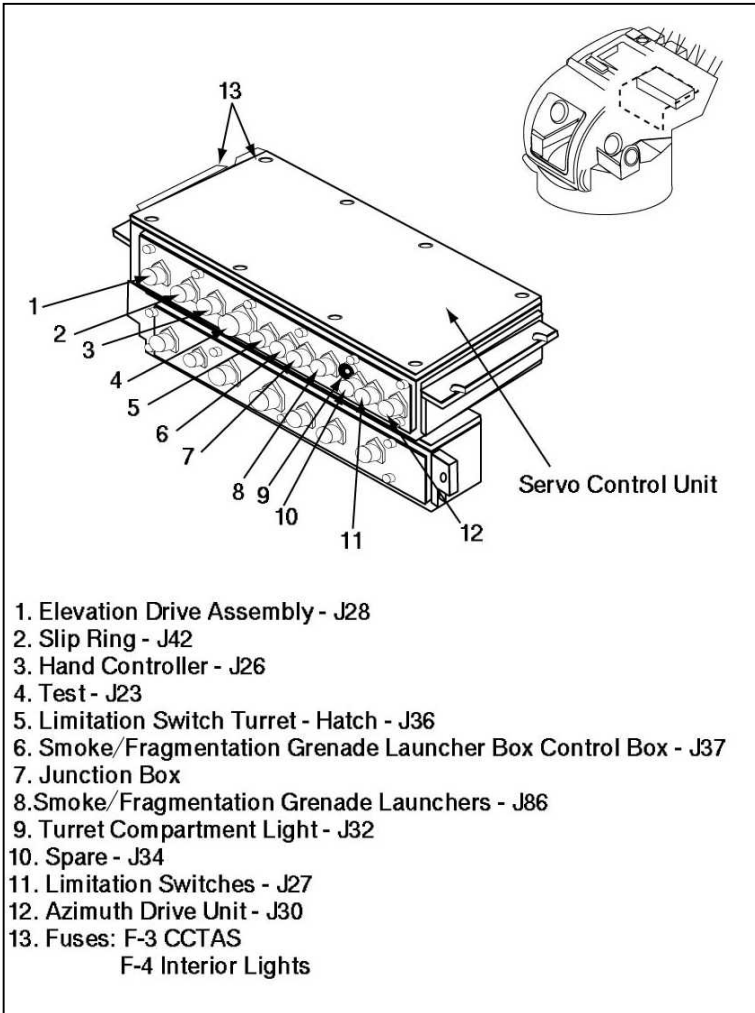

Figure 4-2-3: Servo Amplifier
16. **Servo Amplifier.** The servo amplifier is bolted to two rails located behind the gunner. The unit contains two servo amplifiers that develop the currents to control the speed of the azimuth and elevation drive motors. It receives electrical power from the vehicle through the slip ring. This electrical power is distributed to various components in the turret (see Figure 4-2-3).